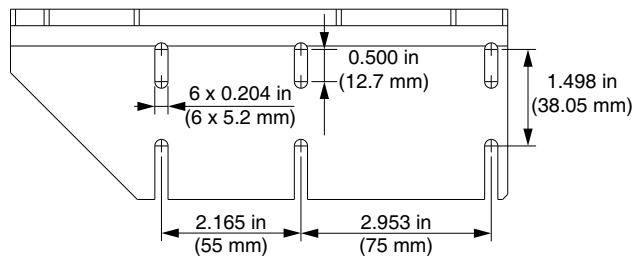

FIG. 4 Mounting Hole Dimensions
3. Attach the PC pump assembly bracket to the selected location. Refer to FIG. 4 for mounting hole dimensions.